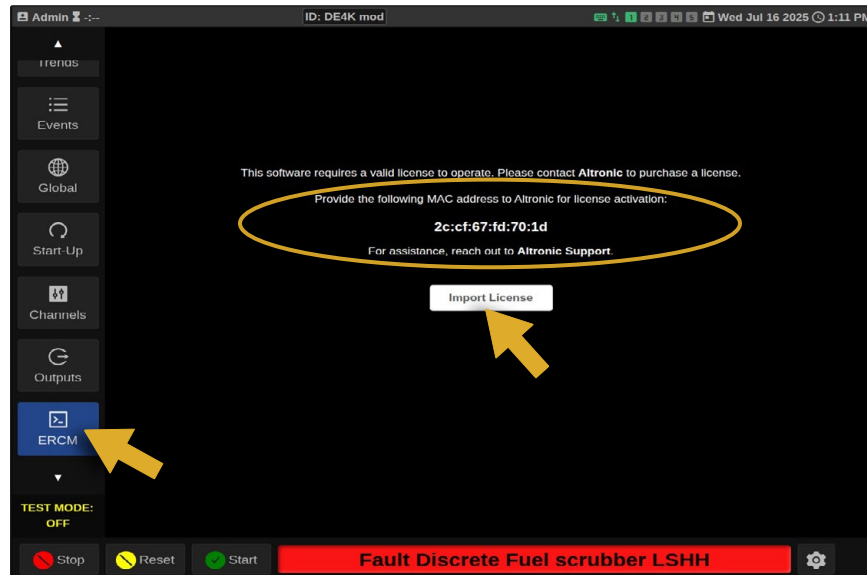

Figure 3
4. If your eRCM screen looks like *Figure 3*, contact Altronic Sales, sales@altronic-llc.com, to purchase a license.
- a. Note the MAC Address for your ACM-4000 (**2c:cf:67:fd:70:1d** in the example in *Figure 3*); you will need to provide it to purchase the license.